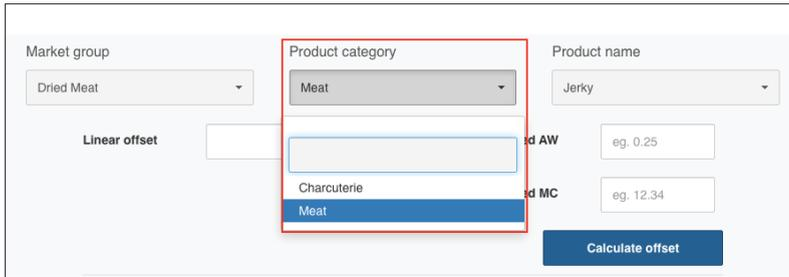

Figure 79 Product category
- c. Under Product name, select the product category that most closely matches the product being measured (Figure 79).